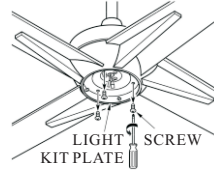

FIG.17
3. Remove the 3 screws from the light kit and keep it for future use.(See fig.17)